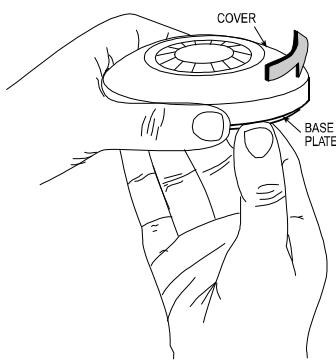

Figure 2. Separating the Cover from the Base
- Hold the base with one hand as shown in Fig. 2. Twist the cover counter-clockwise with the other hand until it stops. Separate the cover from the base, and put it in a safe place, to avoid accidental damage.